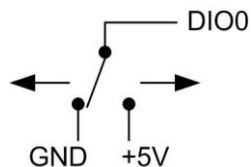

Figure 10. Schematic showing switch detection by digital channel DIO0
When you configure the digital bits for input, you can use the WLS-TEMP digital I/O terminals to detect the state of any TTL-level input. Refer to the schematic shown in Figure 10. If you set the switch to the +5V input, DIO0 reads *TRUE* (1). If you move the switch to GND, DIO0 reads *FALSE* (0).